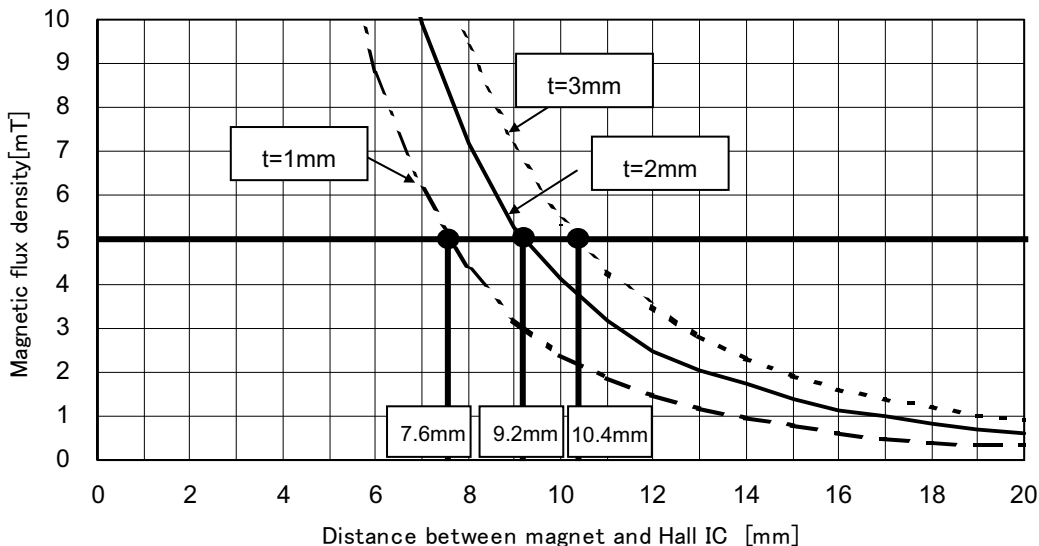

Fig.26
Of the two representative varieties of permanent magnet, neodymium generally offers greater magnetic power per volume than ferrite, thereby enabling the highest degree of miniaturization. Thus, neodymium is best suited for small equipment applications. Fig. 26 shows the relation between the size (volume) of a neodymium magnet and magnetic flux density. The graph plots the correlation between the distance (L) from three versions of a 4mm X 4mm cross-section neodymium magnet (1mm, 2mm, and 3mm thick) and magnetic flux density. Fig. 27 shows Hall IC detection distance – a good guide for determining the proper size and detection distance of the magnet. Based on the BU52014HFV operating point max 5.0 mT, the minimum detection distance for the 1mm, 2mm and 3mm magnets would be 7.6mm, 9.22mm, and 10.4mm, respectively. To increase the magnet's detection distance, either increase its thickness or sectional area.